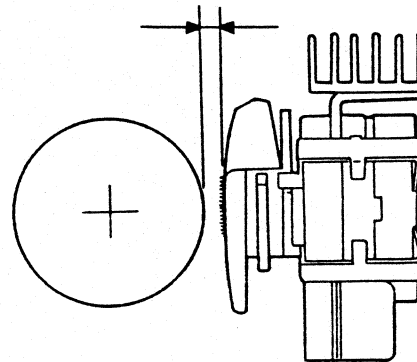

Fig. 2
2. Check the gap between the platen and print head nose. (Refer to Fig. 2)
4. Check the gap between the platen and print head nose. (Refer to Fig. 2)